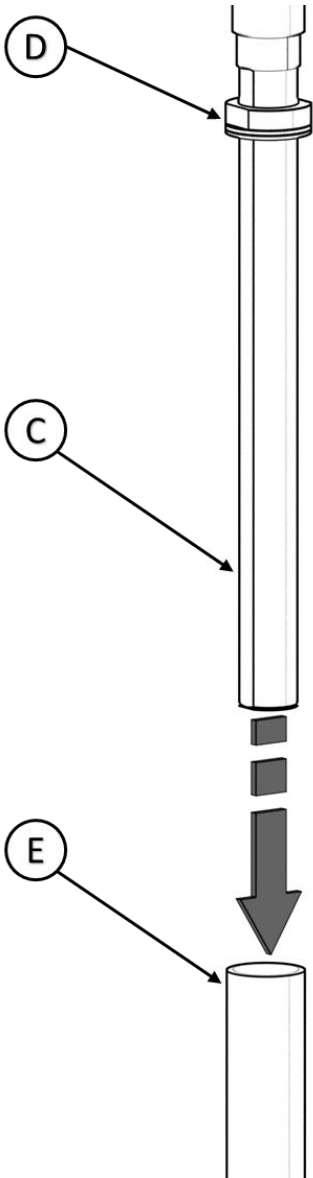

FIGURE 4
4. Twist **D** to its highest position and insert **C** into **E** as shown in *FIGURE 4*.